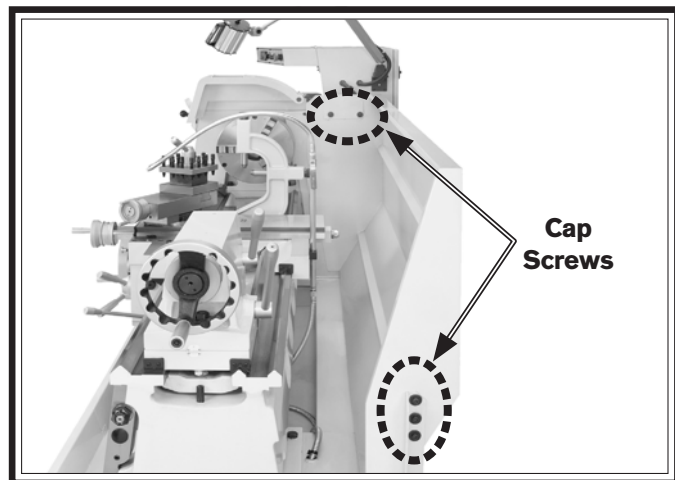

Figure 125. Locations of the backslash cap screws.
3. With the help of another person, remove the splash guard. See **Figure 125** for the locations of the cap screws that secure the backslash.